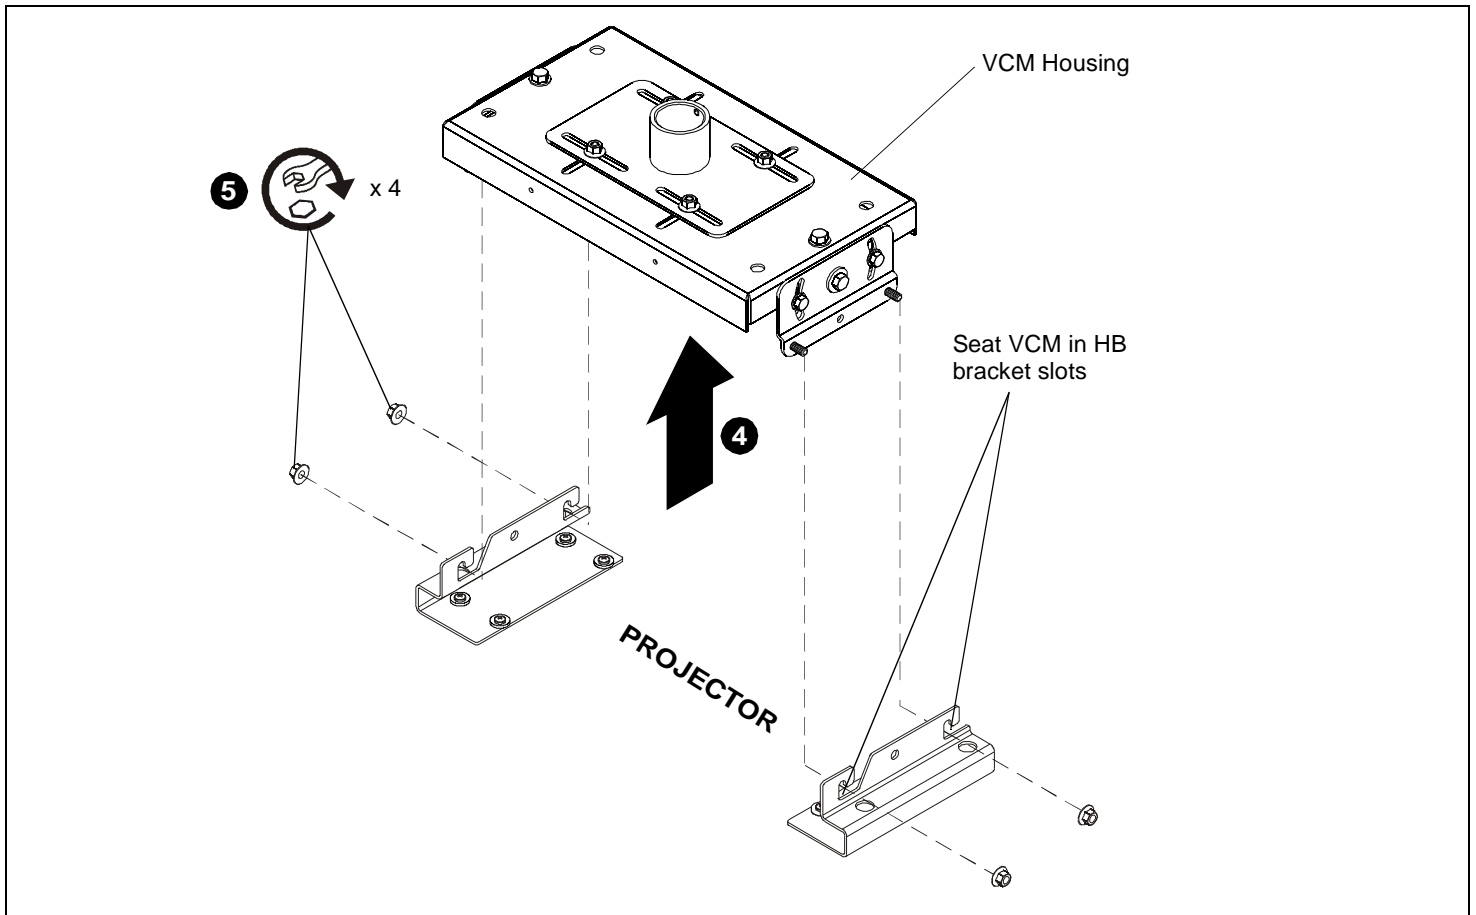

Figure 2
4. With help of assistants, lift the projector and install it to the four studs extending from the VCM housing. Ensure that the VCM housing is seated in slots on HB brackets. (See Figure 2)
5. Tighten the four 5/16" flange nuts. (See Figure 2)